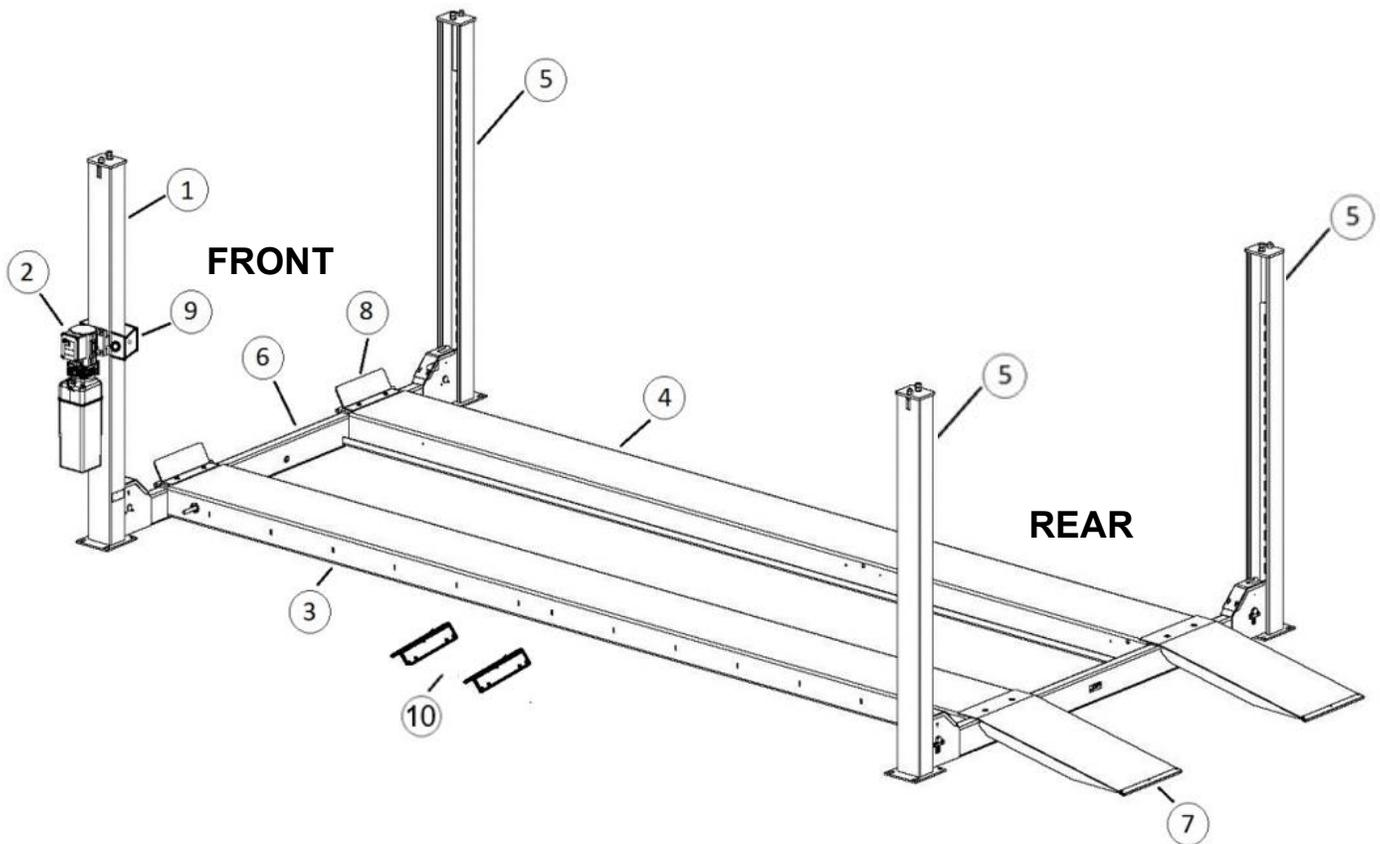

Fig. 2
NOTE: The Main Side 'Power' Runway & Main Side Post must be installed on the same Side & End, shown in Fig 2.)
- 1) Position the Main Side Post (w/ Power Unit Mounting Bracket) at the left front corner of the Main Side Runway. Position the remaining three Sub Posts at the other remaining corners, shown in **Fig. 2**.